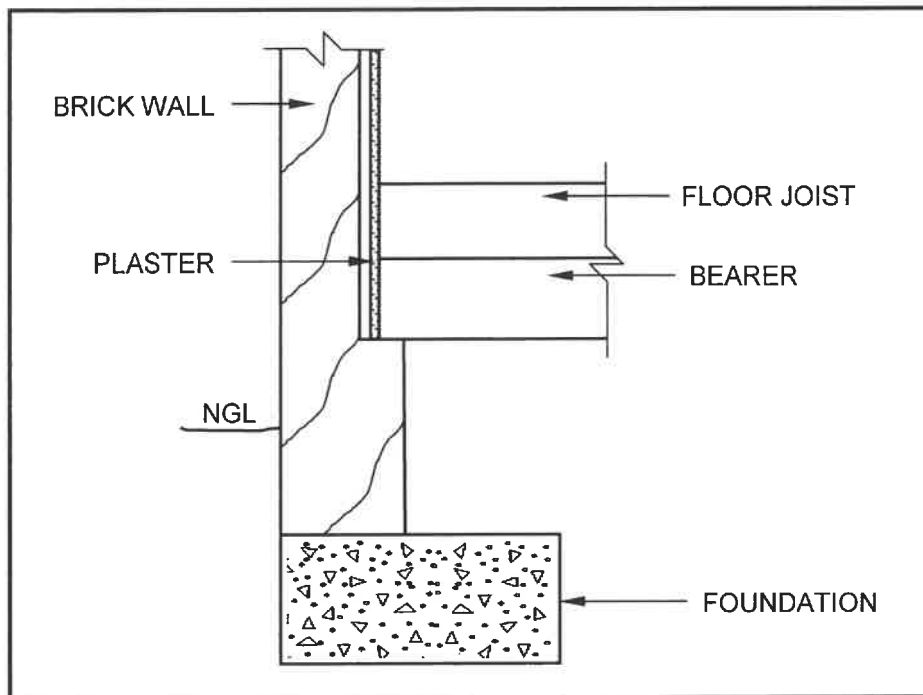

FIGURE 6.5
6.5 FIGURE 6.5 below shows a view of part of an incorrectly constructed suspended timber floor.